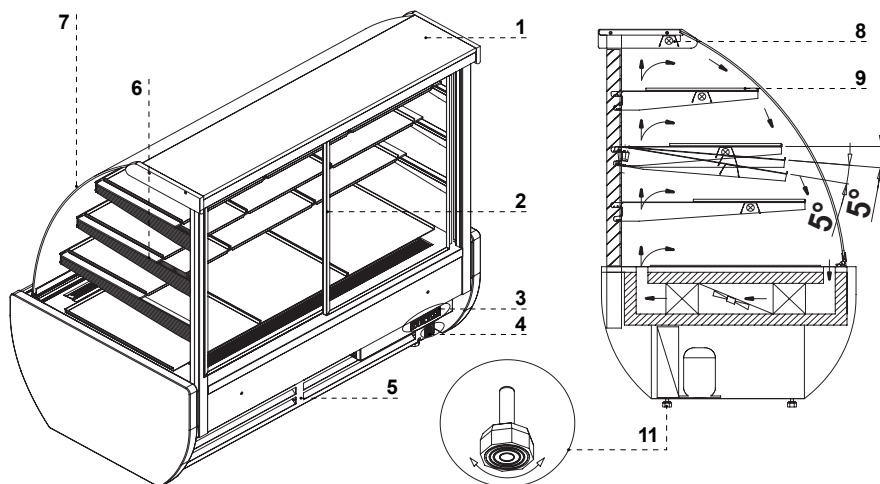

Fig.1 Construction of „Jamajka” device
- The device should be on an even and on a sufficiently hard base, and then level it with the help of feet Fig.1/11 (p.13)